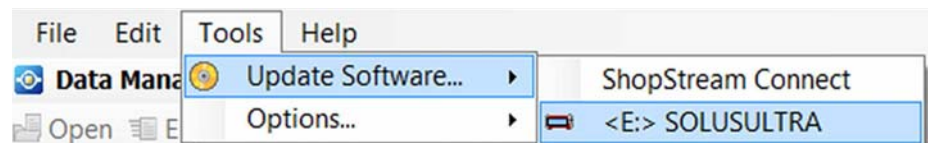

Figure 8-5
1. Select **Tools > Update Software > (Diagnostic Tool type - e.g. MODIS, SOLUS PRO, Vantage Ultra etc.)** from the Menu bar (Figure 8-5).